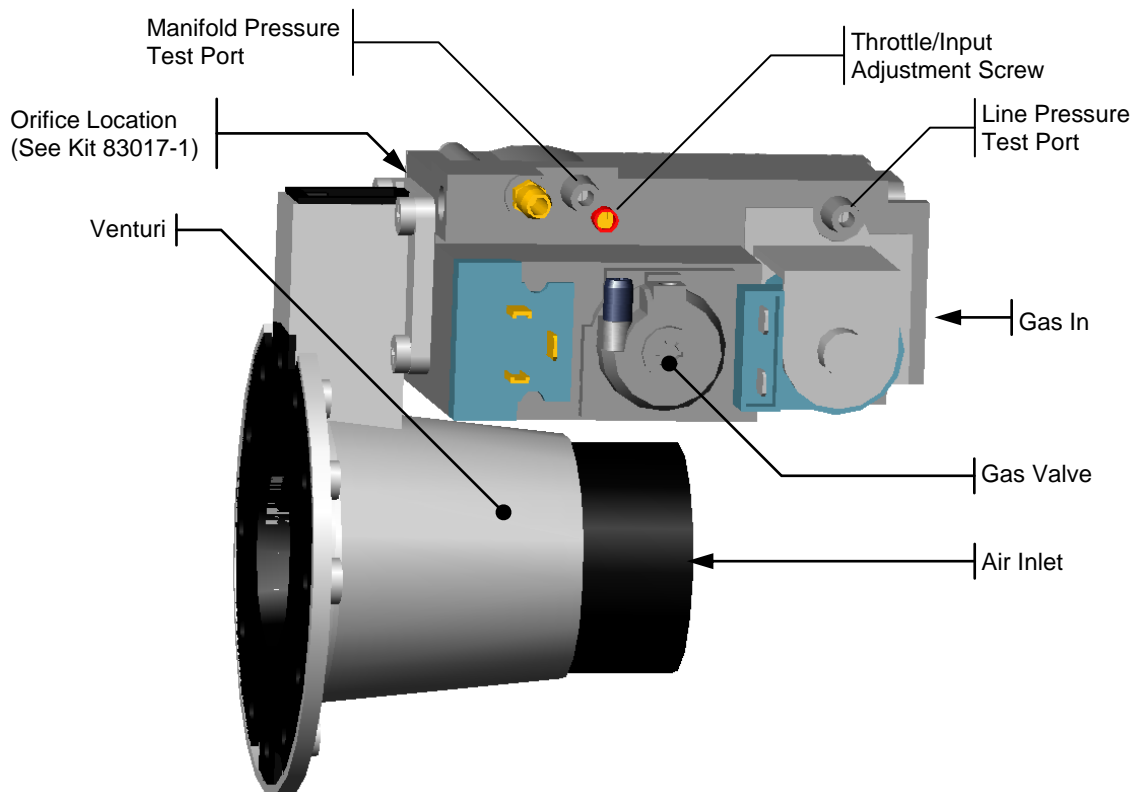

Figure 9-4 Lx500 Gas Valve and Venturi Assembly
2. Open the bleed screw of the line pressure test port approximately 1-1/2 turns (Lx150-500 models). This port is directly connected to the gas line feeding the appliance. For Lx600-800 models, replace 1/8" NPT plug in the inlet flange of the gas valve with a hose barb fitting suitable for manometer tubing used. See Figure 9-4.
Lx500 Adjustments - The throttle screw for the Lx500 is a multiple turn valve. Typical adjustment required for Natural Gas is 0-1 full turns in or out from the factory setting. To adjust combustion for Propane Gas, turn the throttle screw all the way in (clockwise until it stops), then turn the throttle screw out (counterclockwise) 4-1/2 turns and set with a combustion analyzer. See Figure 9-4 for throttle screw location.